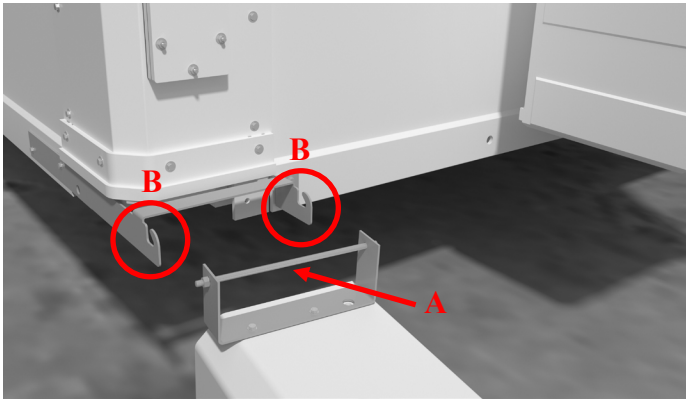
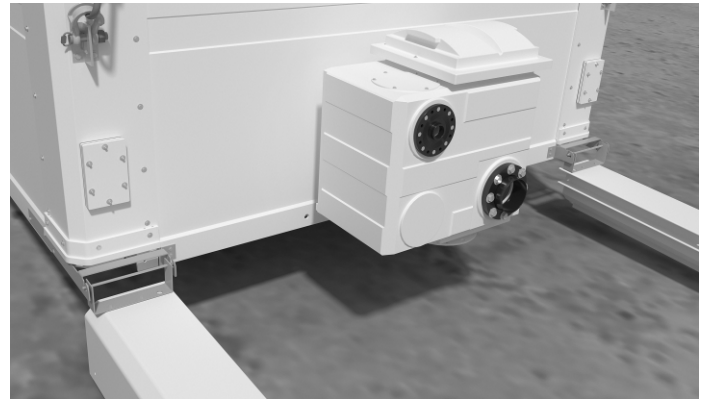

Figure 25
Figure 26
3. Align each leg bracket with the tower bracket and hang threaded bolt (Part A) by inserting into the slotted hinge (Part B) locations (Figure 25 and Figure 26).